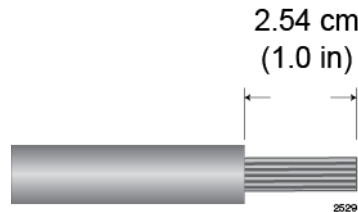

Figure 125. Stripping the solid or Stranded Grounding Wire
1. Prepare an adequate length of solid or stranded 10 AWG grounding wire by stripping it as shown in Figure 125.